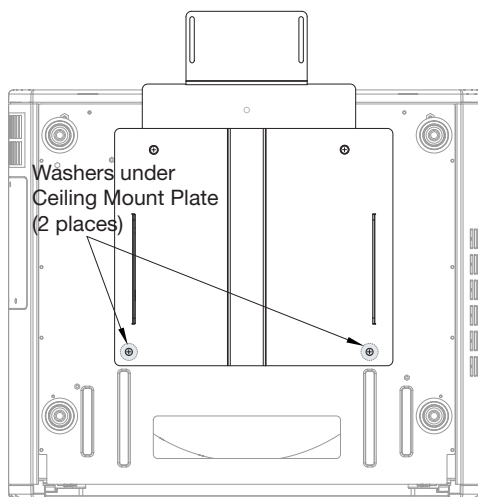

Figure 3-8. Vision 65/CineWide or Vision 65/CineWide with Whitney (Prismatic) Lens Base Plate and Ceiling Mounting Plate - Bottom View
4. Secure the CineWide base plate (and ceiling mounting plate, if needed) to the projector with the four, M6x12mm screws and washers provided with the CineWide lens base plate. See Figure 3-8.